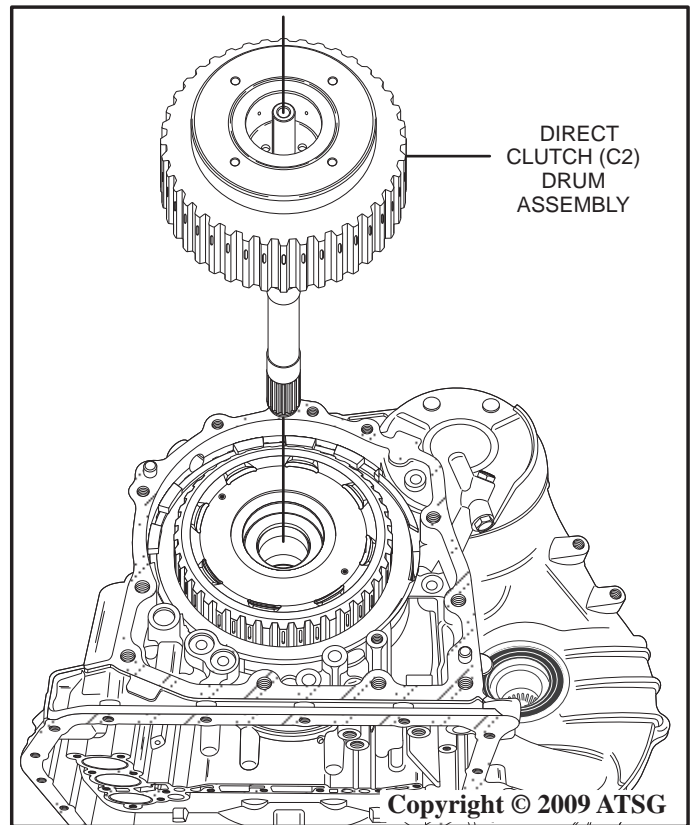

Figure 45
71. Remove the direct clutch (C2) assembly by lifting straight up as shown in Figure 45.